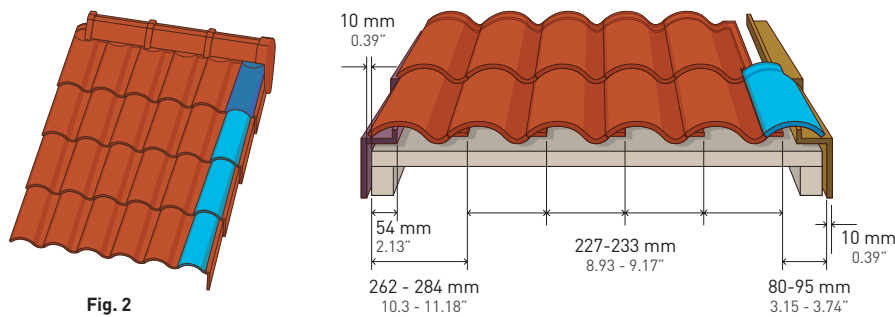

Fig. 2
4. The right section (vertical terminating end) of the roof can be finished by using either a Half (1/2) Tile (Q16 - Q17) (fig.2) or a Double Tile (Q33 - Q34) (fig.3).
5. For a faster installation and extra ridge ventilation, an Under Ridge Tile (Q70) (fig.2) and/or a Double Under Ridge Tile (Q71) (fig.3), is recommended when reaching the ridge line.